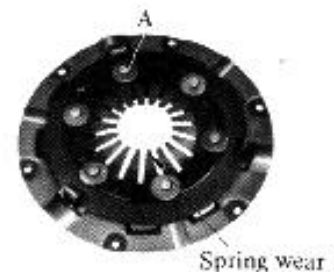

Fig. 7-9
1. Depress the clutch pedal, and if noise is heard, check the caulked area A in the Fig. 7-9.